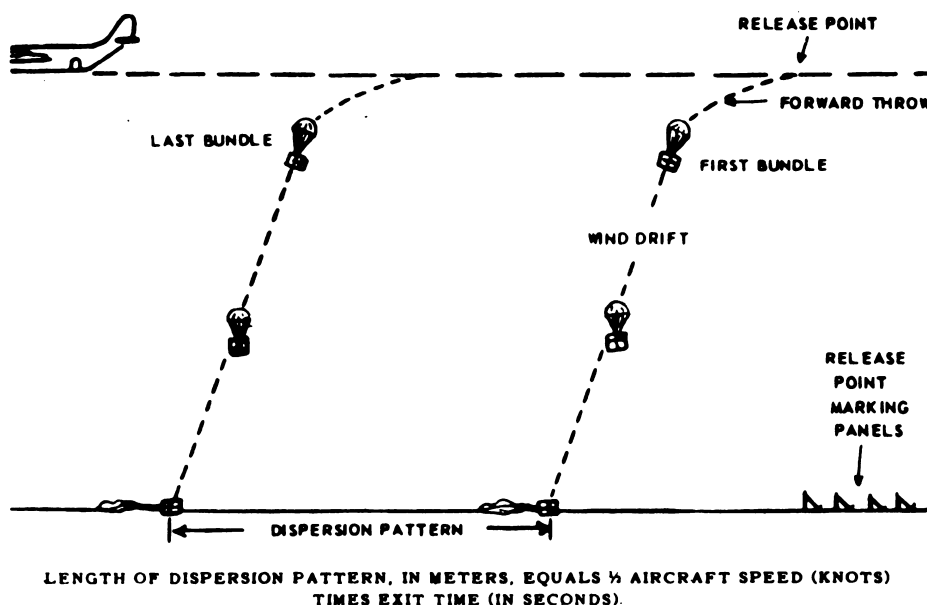

Figure 4. Computation of dispersion.
b. Compute dispersion using the formula one-half speed of aircraft (knots) times exit time (seconds) equals dispersion in meters. Exit time is the elapsed time between the exits of the first and last items (fig. 4).